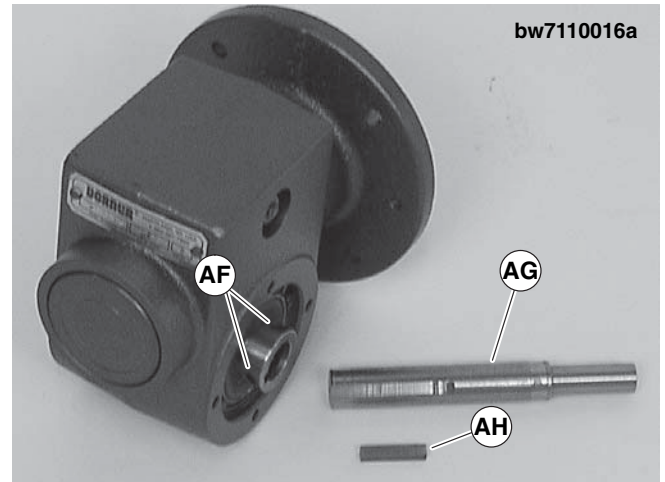

Figure 23
6. Remove two (2) screws (AC) and detach output shaft cover (AD).
7. Remove gear reducer output shaft key (AE).
8. Loosen six (6) set screws (Figure 23, item AF). Remove drive shaft (AG) and key (AH).
10. Replace the original shaft components into new gear reducer (see Figure 23). Tighten set screws (AF) to 26 in-lb (3 N-m).